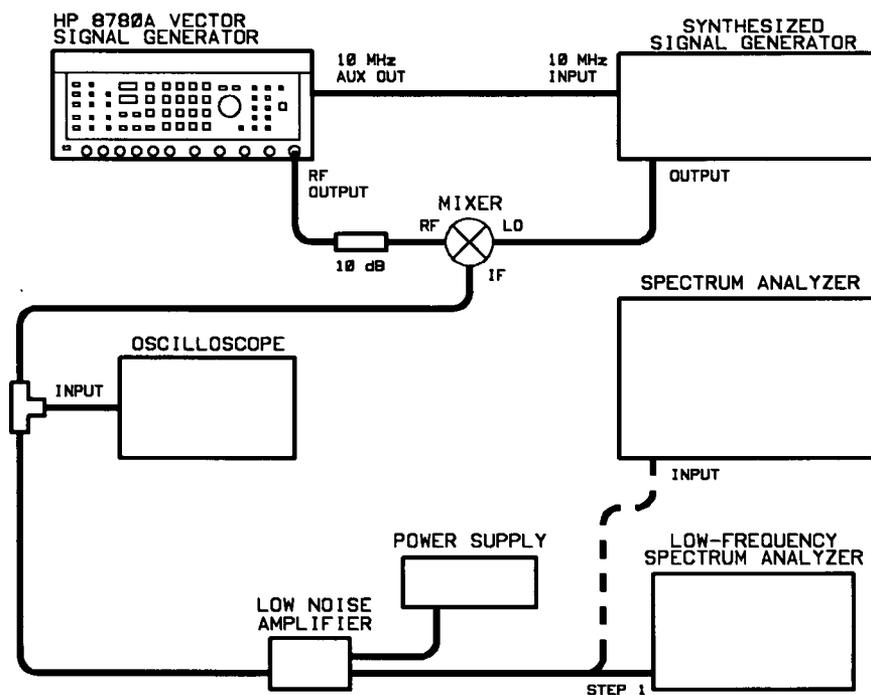

Figure 4-3. Residual SSB Phase Noise Test Setup
1. Connect the equipment as shown in figure 4-3, and preset the HP 8780A (device under test).